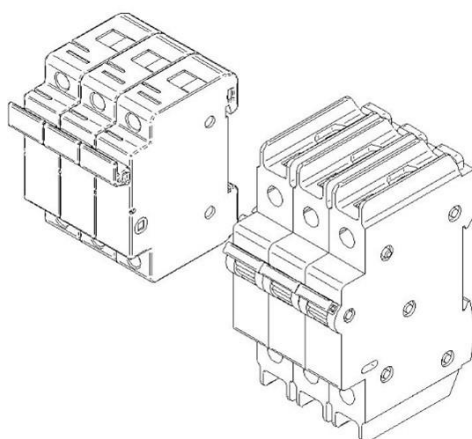

Fig. S-1 Left: Fuse Holder Right: Circuit Breaker
3. Shut off all breakers going to the heaters, if electrically heated. Breakers will be marked WASH HEATER and RINSE HEATER. If machine is fitted with fuses and fuse holders, use appropriate disconnecting means to safely de-energize the Wash and Rinse heating circuits. See Fig. S-1 (below) to help identify what has been fitted in your machine.
6. Select the Short Wash Cycle and push the Start Button; the wash pump should start running at this point. If the pump does not start running, check that all fuses (if applicable – refer to Fig. S-1 on page 7) and all breakers marked PUMP and 120v are in the on position. With the pump running, check the pump rotation looking at the rear of the pump motor and observing the cooling fan to see if it is rotating clockwise. Another indication that the pump is rotating backwards is the wash pump pressure gauge reading under 35psi (241 kPa). If the pump is not rotating in the correct direction, reversal of electrical phases will be necessary. (Contact your electrician or Douglas Machines for details.)